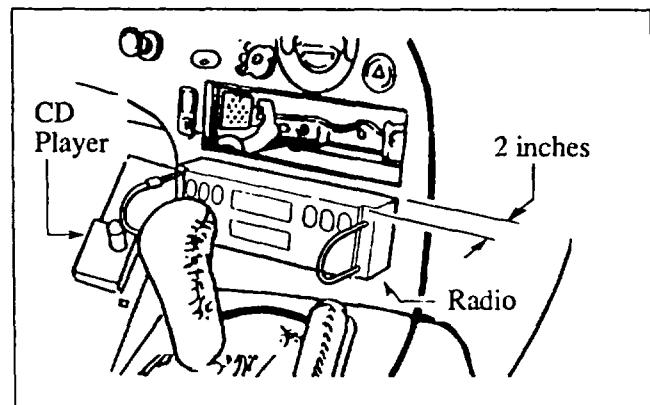

Figure 5: Radio Disconnection
9. Push the SST into the holes on the sides of the radio until it locks. **Figure 5.**